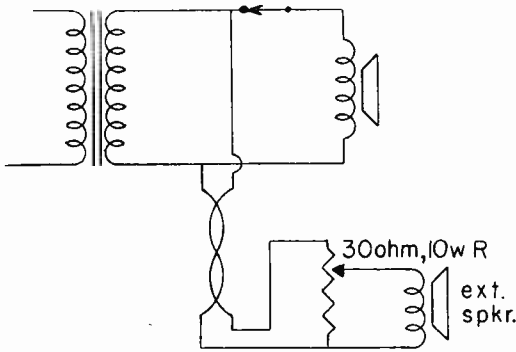

FIG. 5. Use of an extension speaker.
2. Extension speaker works while the set speaker is silent. In either case, it may be desirable to control the volume of the extension speaker at its location. Fig. 5 shows how the job can be done. Since the connections are made at the secondary side of the output transformer, it makes no difference whether the output is push-pull or is single-ended.
In Fig. 5 both speakers can work at the same time or the output of the extension speaker can be cut to zero by adjusting potentiometer R. This potentiometer should be a 30-ohm wire-wound unit rated at 10 watts or more—one with a lower rating will burn out. The potentiometer should be mounted on the extension speaker enclosure and may be connected to the output transformer secondary with twisted lamp cord or 300-ohm TV lead-in cable. No appreciable loss at the extension speaker will be noticed at distances up to 50 feet.